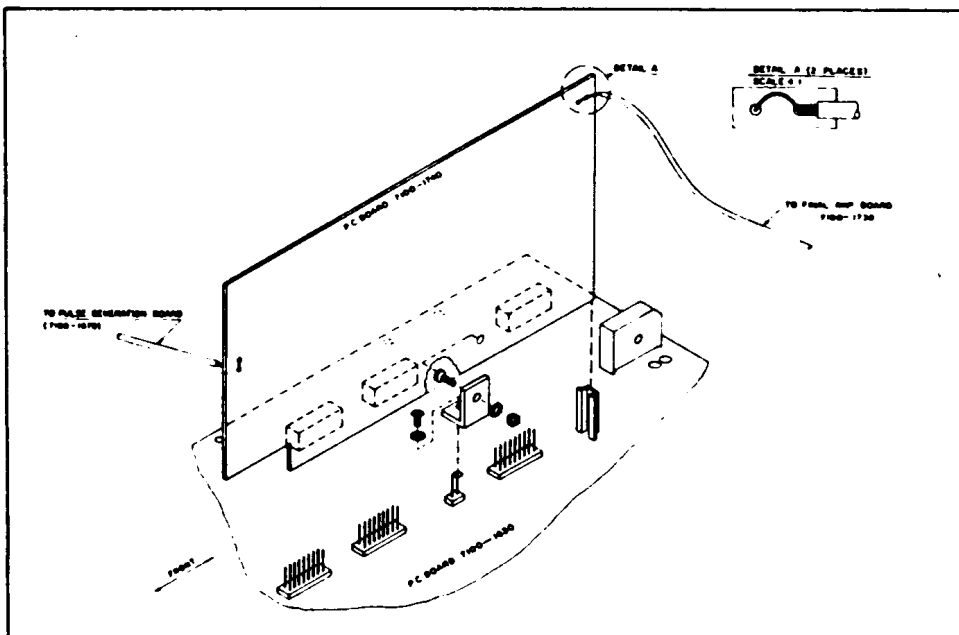

Figure 5-1. Lead/Trail Option (option 40) Installation.
3. Slide the option board along the card guides and push the card down until it locks into place as shown in Figure 5-1.
4. Solder the loose end of the two wires: one to the output board and one to the pulse generation board. Use Figure 5-1 to locate wires and connection points.